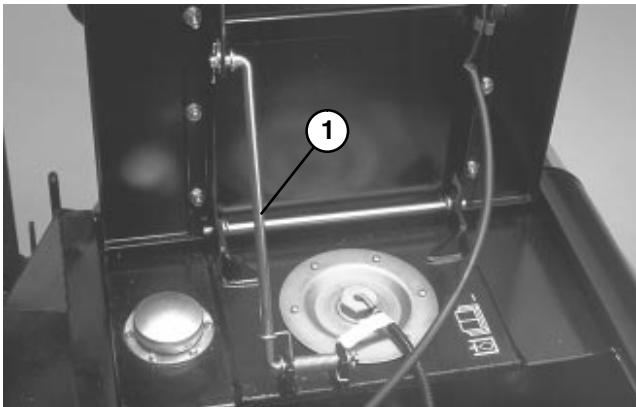

Figure 17
2. Raise seat and support it in upright position with seat support rod (Fig. 17).